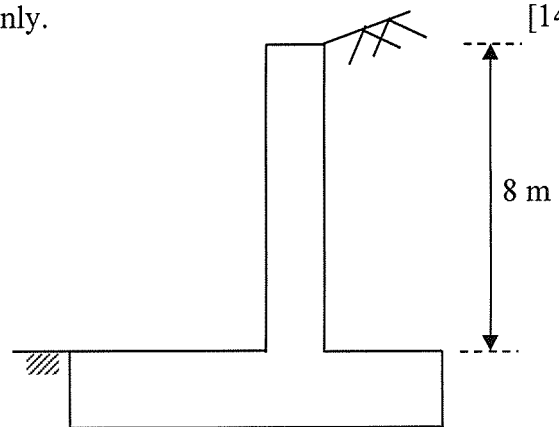

Figure 2. Retaining wall
- b. Design the cantilever retaining wall of a river bank of hilly area as shown in **Figure 2**. Density of soil beside the wall is 1700 kg/m^3 , active soil pressure coefficient is 0.5 , soil is saturated with water (void ratio of the soil is 30%). Concrete strength (f_c') could be used as 25 N/mm^2 . Thickness of the wall could be assumed as 1000 mm . [6 Marks]